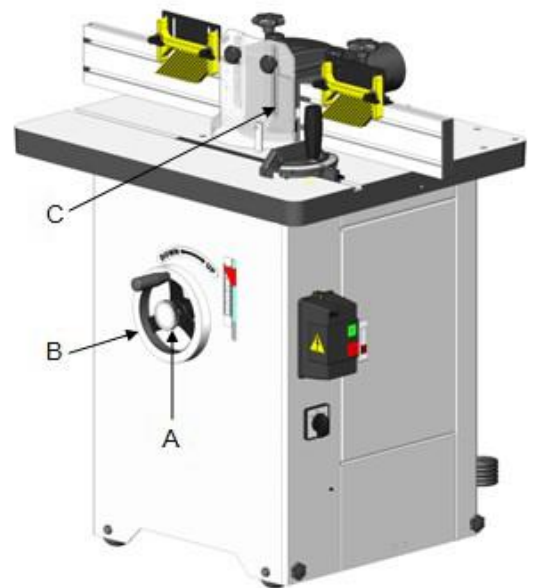

Fig. 5
The chart in Fig.5 shows the correct size cord to use based on cord length and motor plate amp rating. If in doubt, use the next heavier gauge. The smaller the gauge number, the heavier the cord.
1. Loosen the lock knob A (Fig. 5)